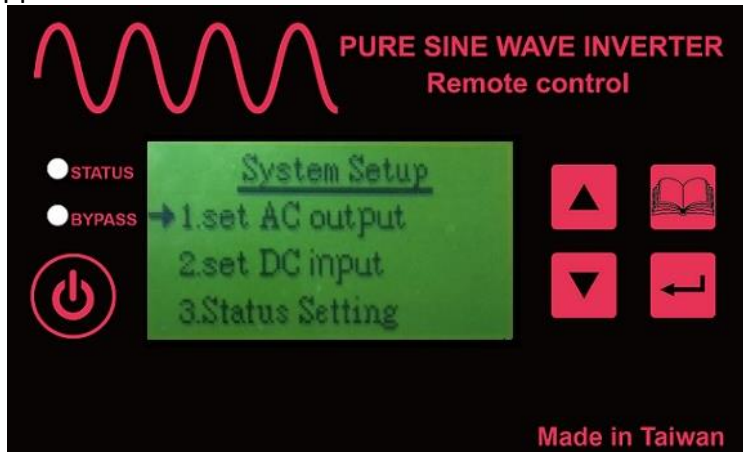
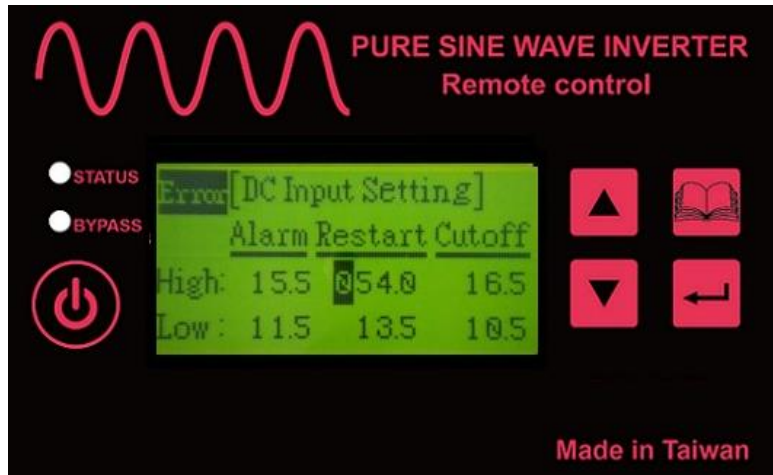
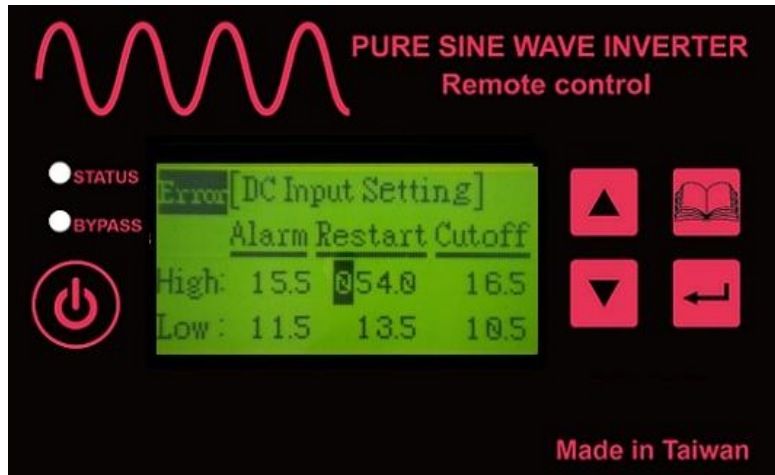

Figure 7: System setting Screen
Figure 9: Error Screen
Figure 13: Error Screen
If successfully enter into system setting mode and disable inverter dip switch S6 will show below figure7. If you enable inverter dip switch S6, the screen will show item 2: set DC input only and item 1 and item 3 will disappear.
Figure 7 demonstrates the system setup of AC output, DC output and Status setting. Press  or  button to move the arrow to the setup item you want to select. After arrow moves to the setup item you want and press the  button, then you will enter into the setting mode. If you don't change default value and press  button then you will leave the setting mode and go to the system setting screen (see figure 7).
If you want to leave setting mode, please press  button then you will leave the setting mode and system will automatic check any value is changed. If no value is changed, the screen will go back to the system setting screen (see figure 7). If value is changed, the system will automatic check the changing value is correct or incorrect. If the changed value is incorrect, the system will show error on the upper left of screen (see below figure 9).
If you want to leave setting mode, please press  button then you will leave the setting mode and system will automatic check any value is changed. If no value is changed, the screen will go back to system setting screen (see figure 7). If value is changed, the system will check the changing value is correct or incorrect. If the changed value is incorrect, the system will show error on the upper left of screen (see below figure 13).
If you want to leave setting mode, press  button then you will leave the setting mode and system will automatic check any value is changed. If no value is changed, the screen will go back to system setting screen (see figure 7).